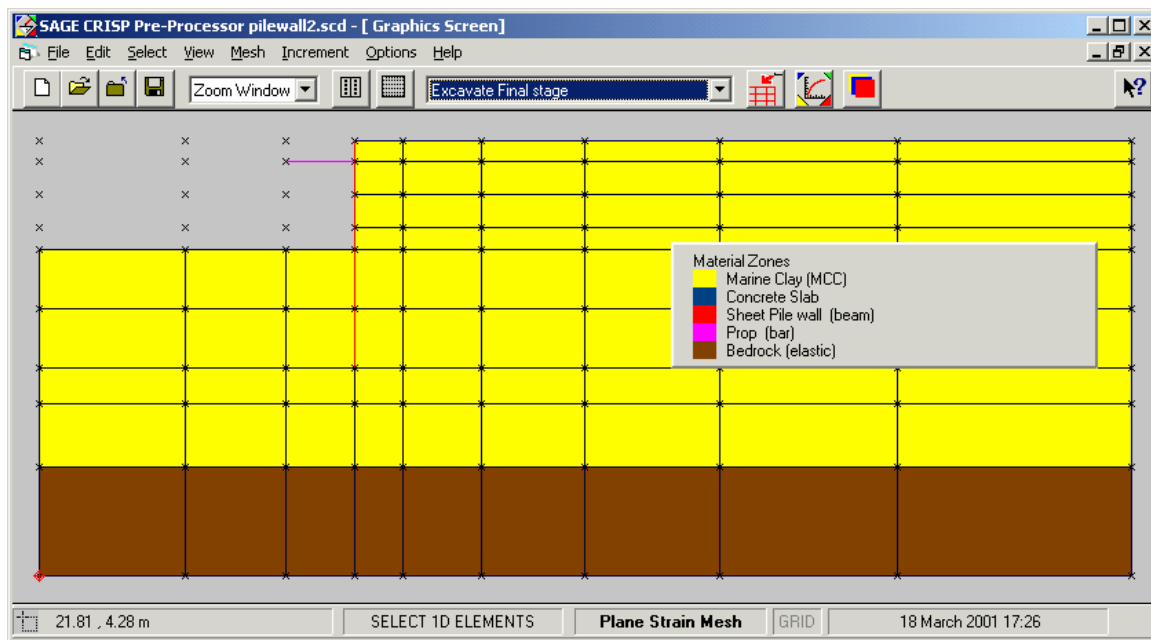

Figure 7 - excavation complete
- Step 4** The excavation stage is now complete and the screen should look like figure 7